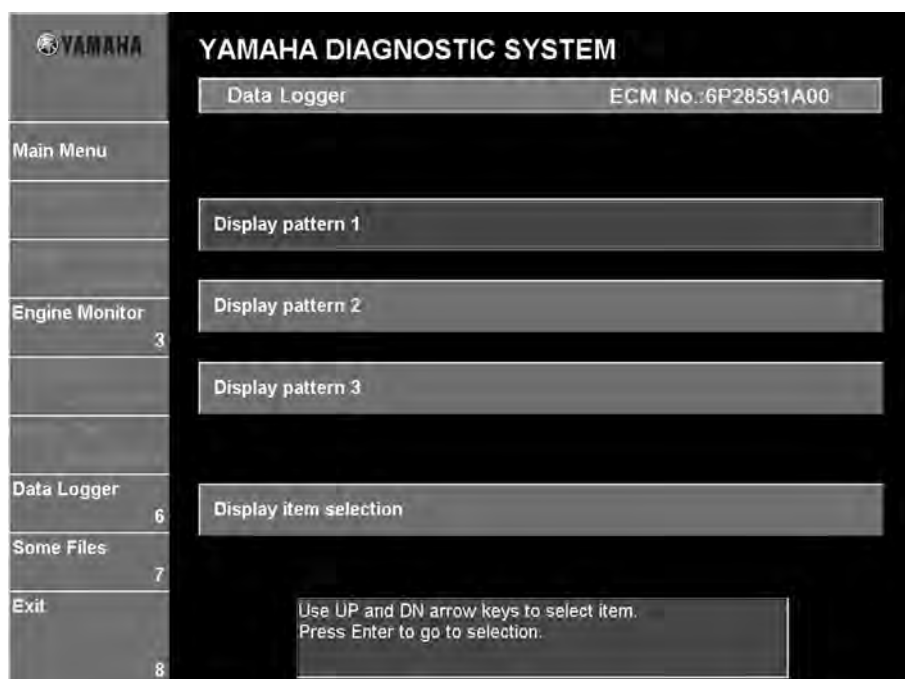

Fig. 126
3. The following window is displayed. (Fig. 126) Proceed to step 3 in the applicable graphing procedures.